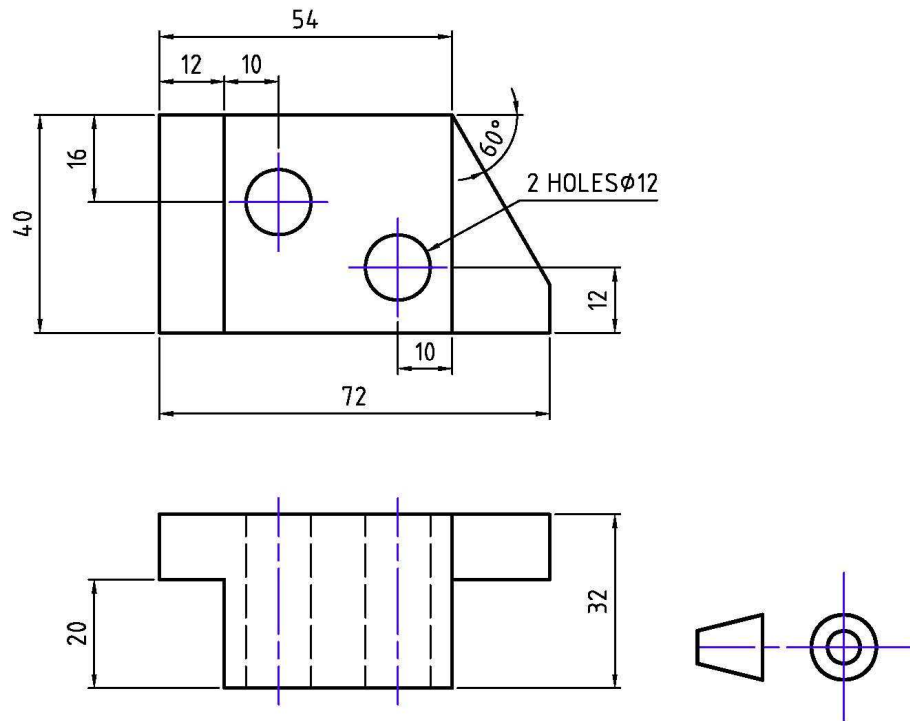

Figure Q2 (b)
- a) Figure Q2 (a) shows orthographic views of a bearing bracket. Draw an isometric view of the bracket with corner A as the lowest point on the drawing. [10 Marks]
- b) Figure Q2 (b) shows orthographic views of an engineering object. Draw an oblique view of the object in cavalier projection using a receding angle of 30°. [10 Marks]